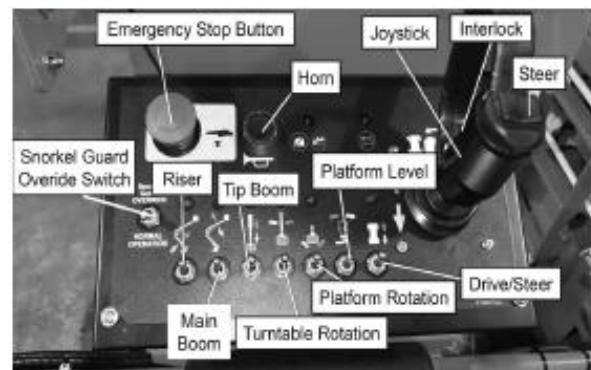

Figure 8.5 – Upper Controls
4. At the lower controls twist the emergency stop button outward clockwise to the on position (refer to Figure 8.5).